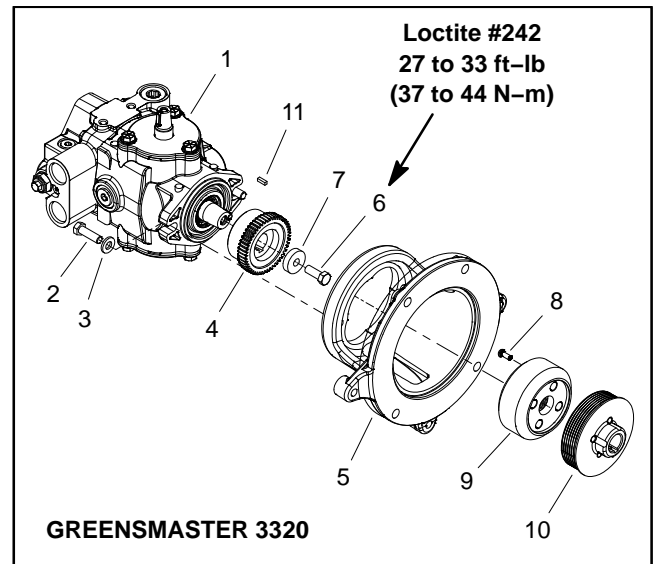

Figure 105
5. Move pump assembly away from pump mount to allow removal of generator belt (Fig. 105):
2. Secure pump assembly to pump mount (Fig. 105):
- B. Secure pump assembly to pump mount with two (2) cap screws and flat washers.